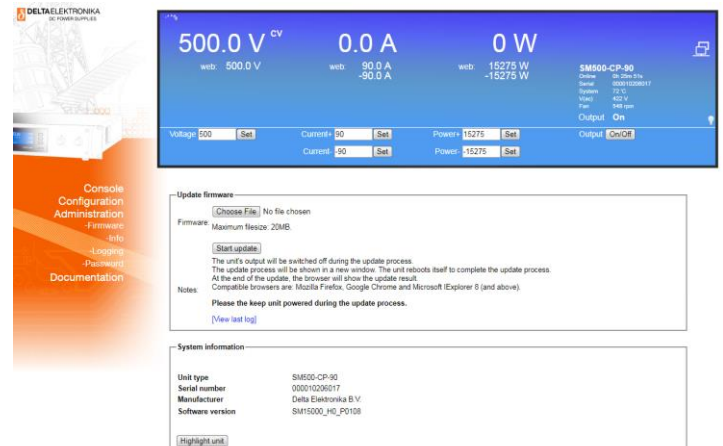

Figure 6.11: Via the web interface the downloaded firmware package can be uploaded to the unit
- Regularly check for firmware updates at the Delta Elektronika website. If there is a new update available, the unit can be updated via the web interface, see Figure 6.11.